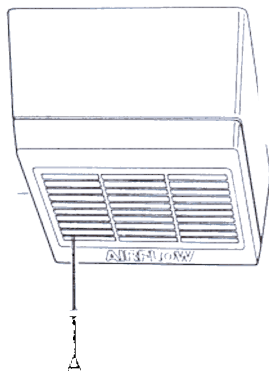

Fig. 11
7.7 Refit the terminal block, fan and motor assembly, which must be inserted under the tabs on the backplate and be pulled to the left whilst tightening the fixing screws, followed by the module and grille. Do not overtighten the grille retaining screw. If the unit is fitted with a pull cord, route the cord through the grille aperture (see Fig. 11).
If the unit is fitted with a pull cord route the cord through the grille aperture (see Fig. 11).